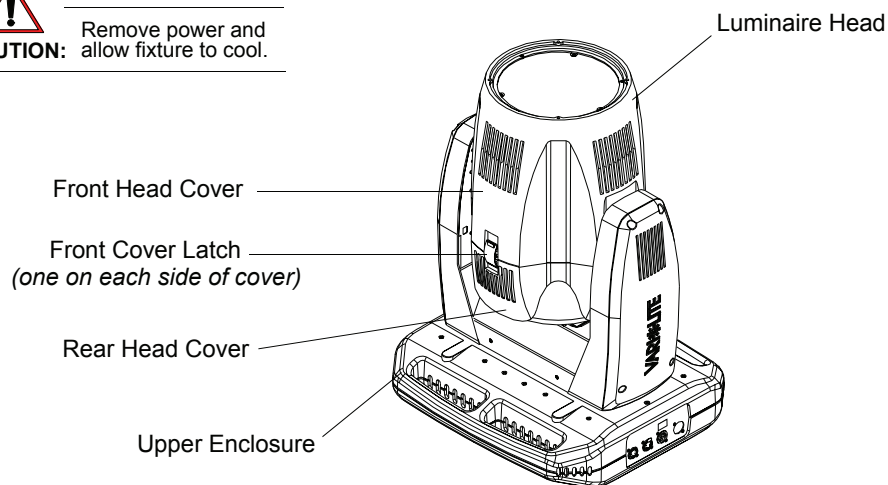

Figure 1-1: VLX Wash Luminaire
- Step 2. Carefully set luminaire on upper enclosure, rotate head as shown in Figure 1-1, and engage tilt lock.